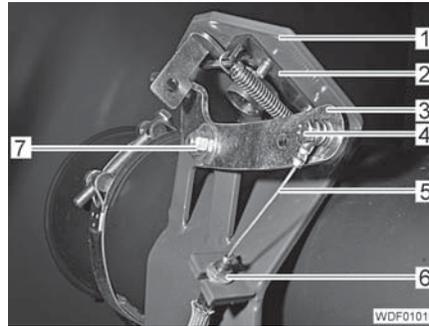

Fig. 348 Locking mechanism of engine hood
- Insert the Bowden cable (Fig. 348,5) into the mounting bracket (Fig. 348,1) from the front.
- Tighten the nut (Fig. 348,6).
- Screw in the screw (Fig. 348,4) with the eye and washer and tighten so that the eye can still be rotated.